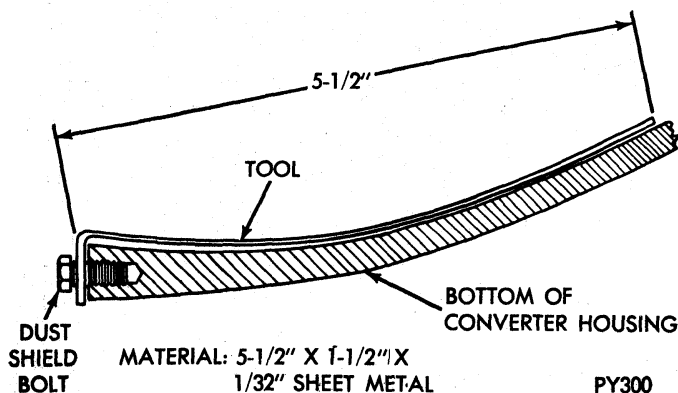
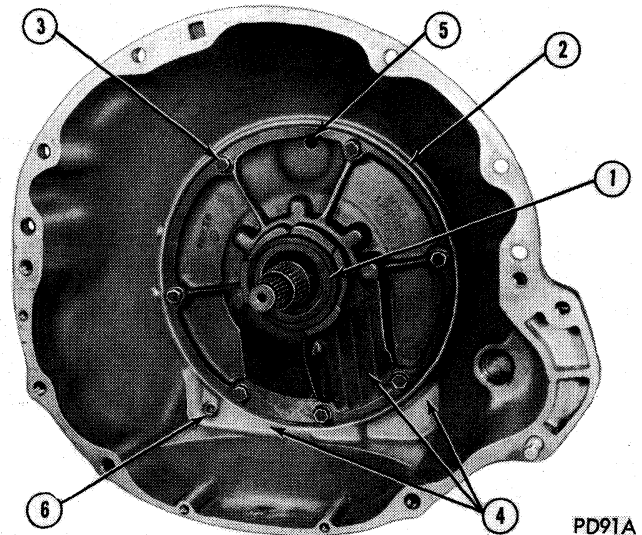

Fig. 4—Leak Locating Test Probe Tool
Fig. 5—Transmission Converter Area
- (1) Remove converter housing dust shield.
- (2) Position vehicle with front lower than back so that accumulated fluid in converter housing will drain out. Wipe bottom inside of converter housing as dry as possible. A solvent spray followed by compressed air drying is preferable.
- (3) Fabricate and fasten test probe (Fig. 4) securely to convenient dust shield bolt hole. Make certain converter is cleared by test probe. Tool must be clean and dry.
- (4) Run engine at approximately 2,500 rpm with transmission in neutral, for about 2 minutes. Transmission must be at operating temperature.
- (5) Stop engine and carefully remove tool.
- (6) If upper surface of test probe is dry, there is no converter leak. A path of fluid across probe indicates a converter leak. Oil leaking under the probe is coming from the transmission converter area (Fig. 5).
- (7) Remove transmission and torque converter assembly from vehicle for further investigation. The fluid should be drained from the transmission and converter. Re-install converter drain plug and oil pan (with new gasket) at specified torque.
Possible sources of transmission converter area fluid leakage shown in (Fig. 5) are: